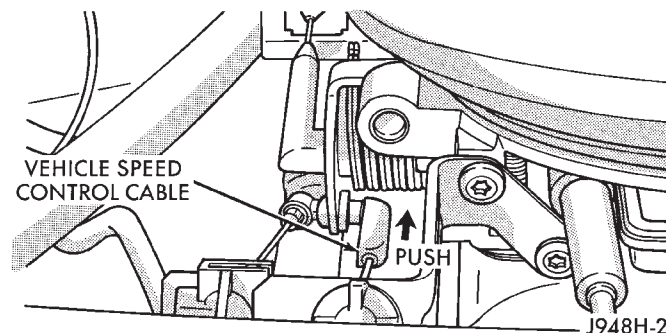

Fig. 6 Cable at Bell Crank—5.2L V-8 Engine
- (2) 5.2L Engine: Using finger pressure only, remove speed control cable connector at throttle body bellcrank by pushing connector rearward off the bellcrank pin (Fig. 6). **DO NOT try to pull connector off perpendicular to the bellcrank pin. Connector will be broken.**